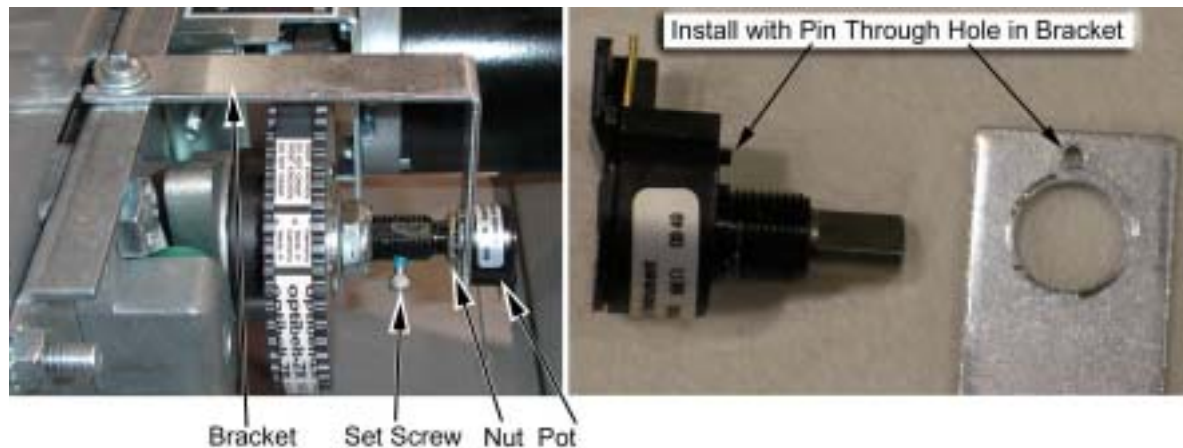

Figure 30. Replacing the 5 K Ω Steering Pot
To replace a pot, refer to Figure 30 and perform the following steps:
3. Reverse these steps to install the new pot. Install the pot with the plastic pin through the small hole in the bracket, as shown in Figure 30 below.
Refer to Figure 30 above, and Figure 31, and perform the following steps to remove the force-feedback belt for repair. Always replace the belt if it looks cracked or worn.
1. Using a 7/64 Allan wrench, loosen the set screw from the steering column and remove the bracket with the pot attached (see Figure 30).